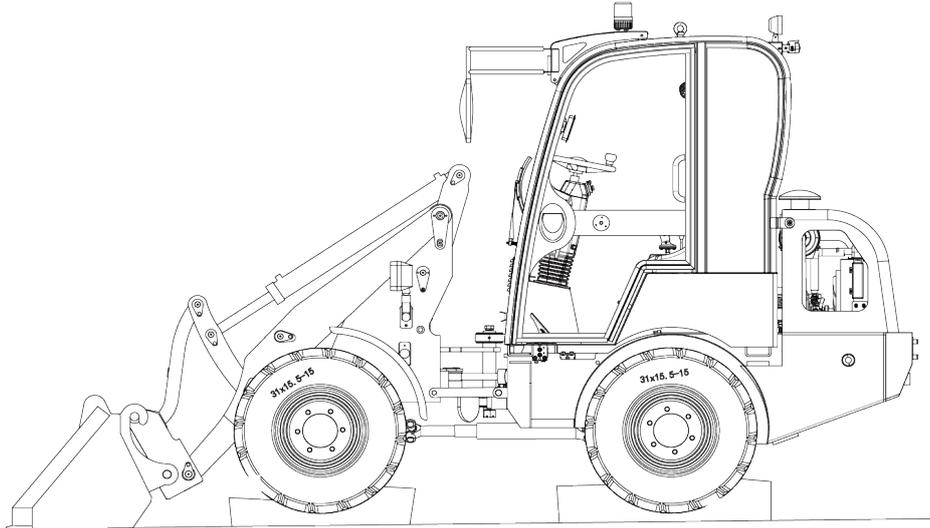

Figure 6-7 Parking status
(1) Primary fuel filter (2) Secondary fuel filter (3) Hand pump button
Step 1: Park loader on a flat field, place control handle in neutral position, stop and pull up parking brake handle, put the blocks before and after the tires, as shown in Figure 6-7;